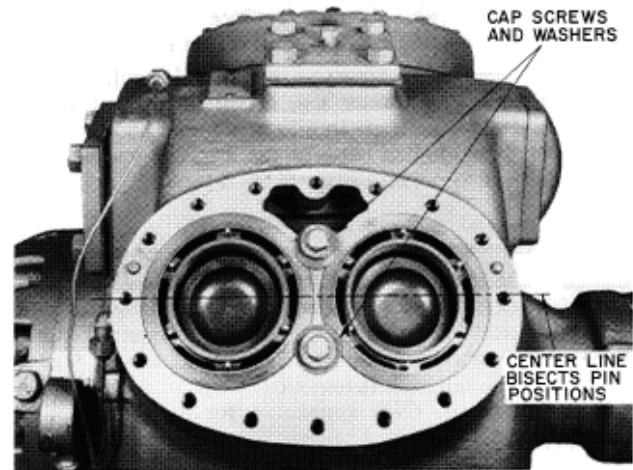

Fig. 16 — Position of Cylinder Sleeves
Remove cylinder head, suction and discharge valve assembly, and pump-end bearing head. Whenever cylinder sleeve or valve plate is replaced, use a new suction valve disc. (See Fig. 16.)
- Rotate sleeve so that any 2 valve lifter-pin holes lie equal distances from longitudinal axis of compressor (see Fig. 16). In this position, lifter pins line up with suction valve springs.